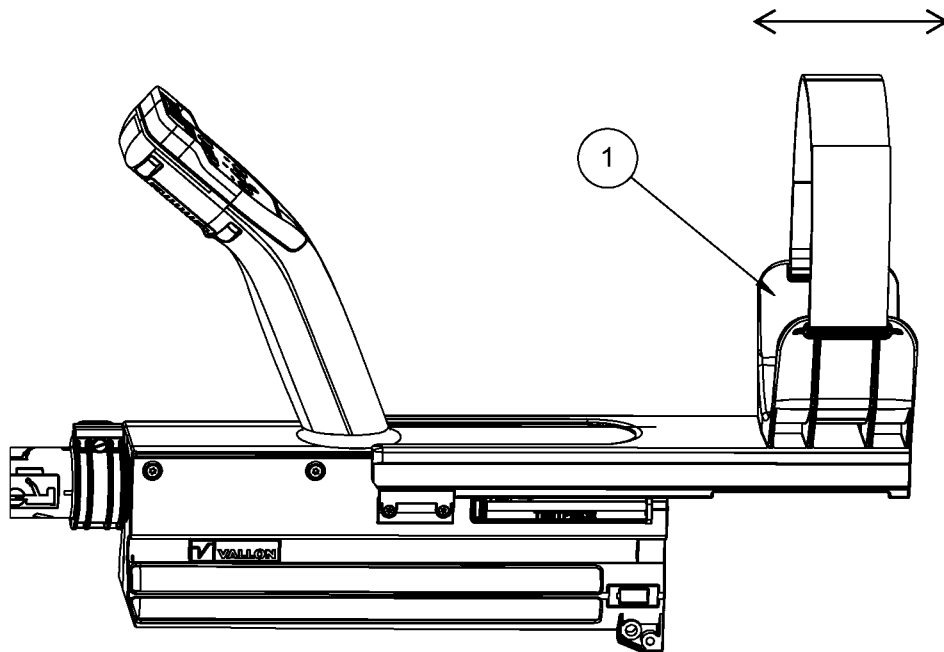

Fig. 5.2.5: Adjusting the arm rest: (1) Arm rest
5. Slide the arm rest into the desired position, see fig. 5.2.5.